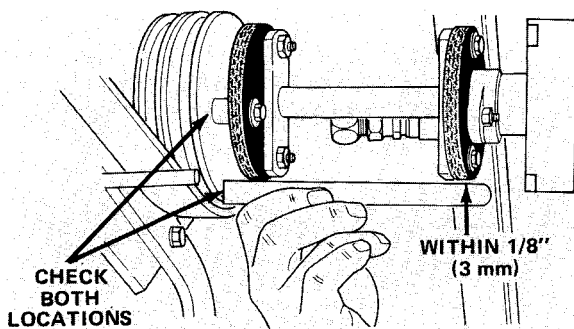

Figure 46
1. Check alignment of drive couplings, place square end of ruler or scale against face of drive pulley and bottom of coupling retainer to check vertical alignment (Fig. 46). Also, place ruler or scale against face of drive pulley and side of coupling to check horizontal alignment (Fig. 46). If there is more than 1/8 inch (3 mm) between ruler or scale and opposite coupling retainer, or the scale is more than 1/8 inch (3 mm) higher than bottom of coupling during vertical alignment check or scale does not align within 1/8 inch (3 mm) of side of coupling, an adjustment is required. To correct for misaligned drive coupling, proceed to step 2.